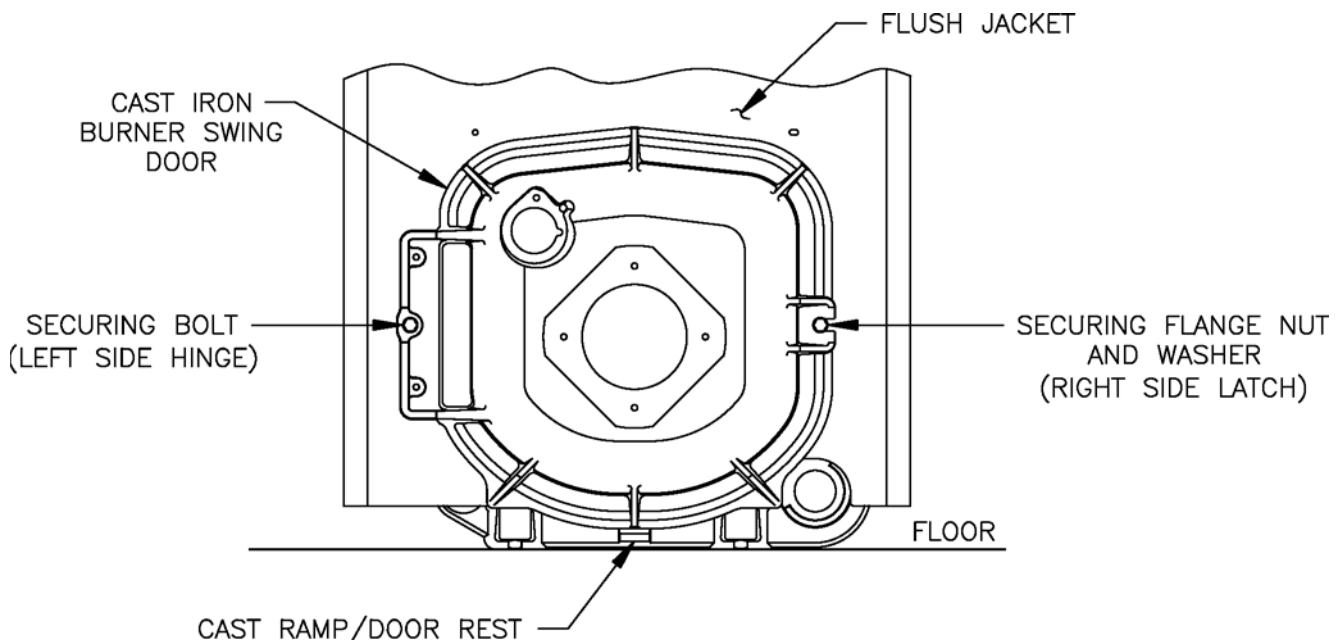

Figure 11A: Partial Front View - Burner Swing Door Mounted to Boiler - Fully Closed and Secured
1. TO OPEN BURNER SWING DOOR (see Figures 11A and 11B).
3. To close Burner Swing Door (see Figures 11A and 11B):
Step 2. Grasp the door's left side hinge flange in your left hand and place your right hand under the burner air tube to lift upward. Lift the door up unto the built-in cast ramp/door rest (protruding from the bottom of the front section casting - see Figure 11A), while rotating the articulated hinge and door to the right and engaging the slot (on right side of door) unto the 5/16" stud protruding from the front section.